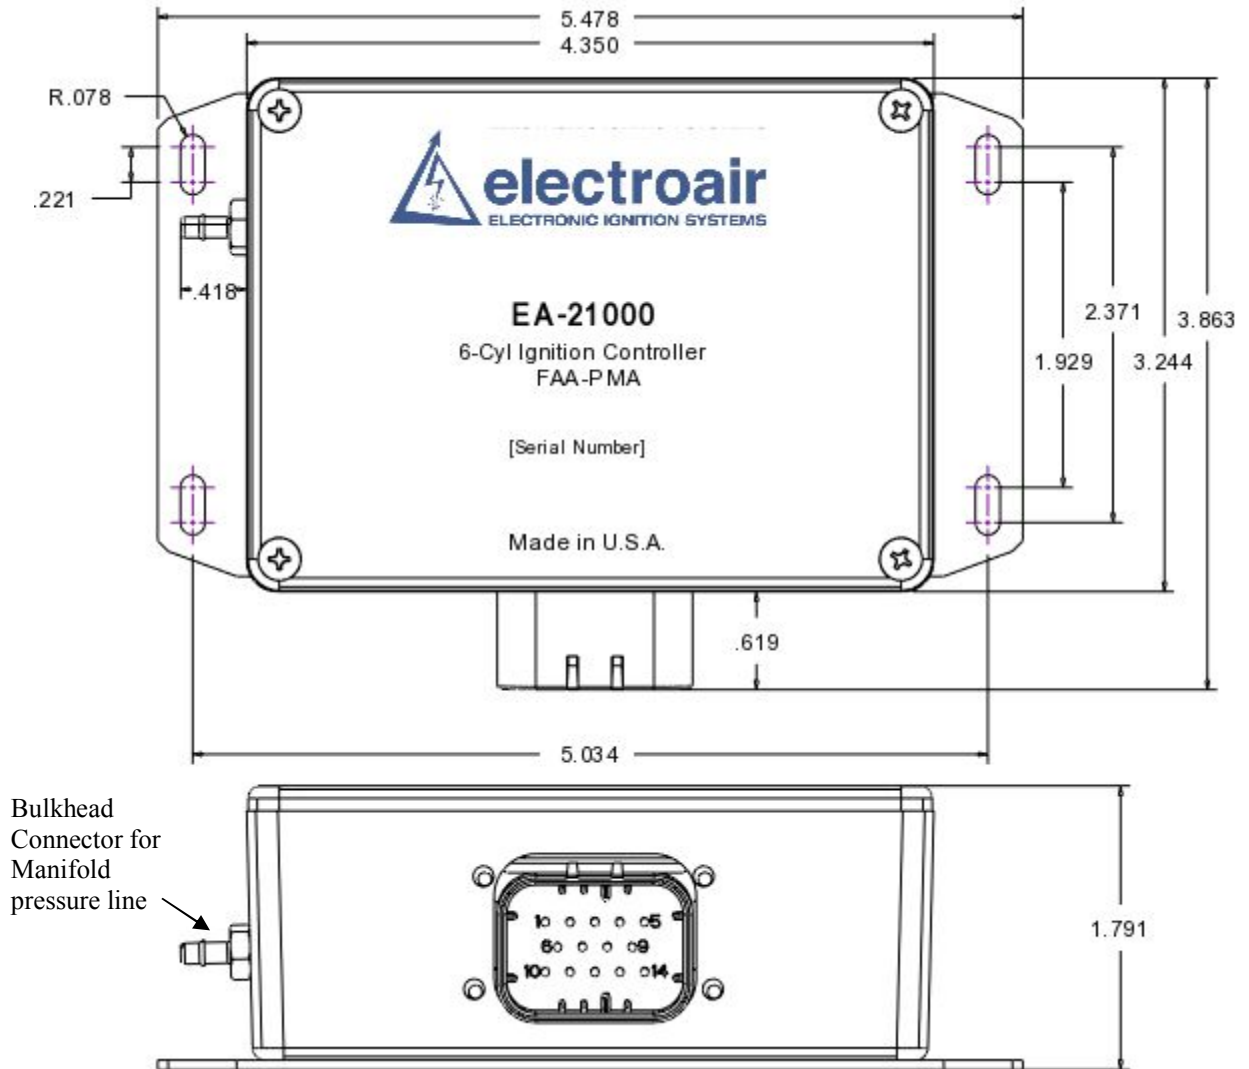

**Figure 11: MTH Installation into magneto drive gear/cushions**
- f. Install the MTH into the magneto hole and connect correctly with the magneto drive gear retainer and cushions. Electroair recommends using new magneto drive cushions. See Figure 11.